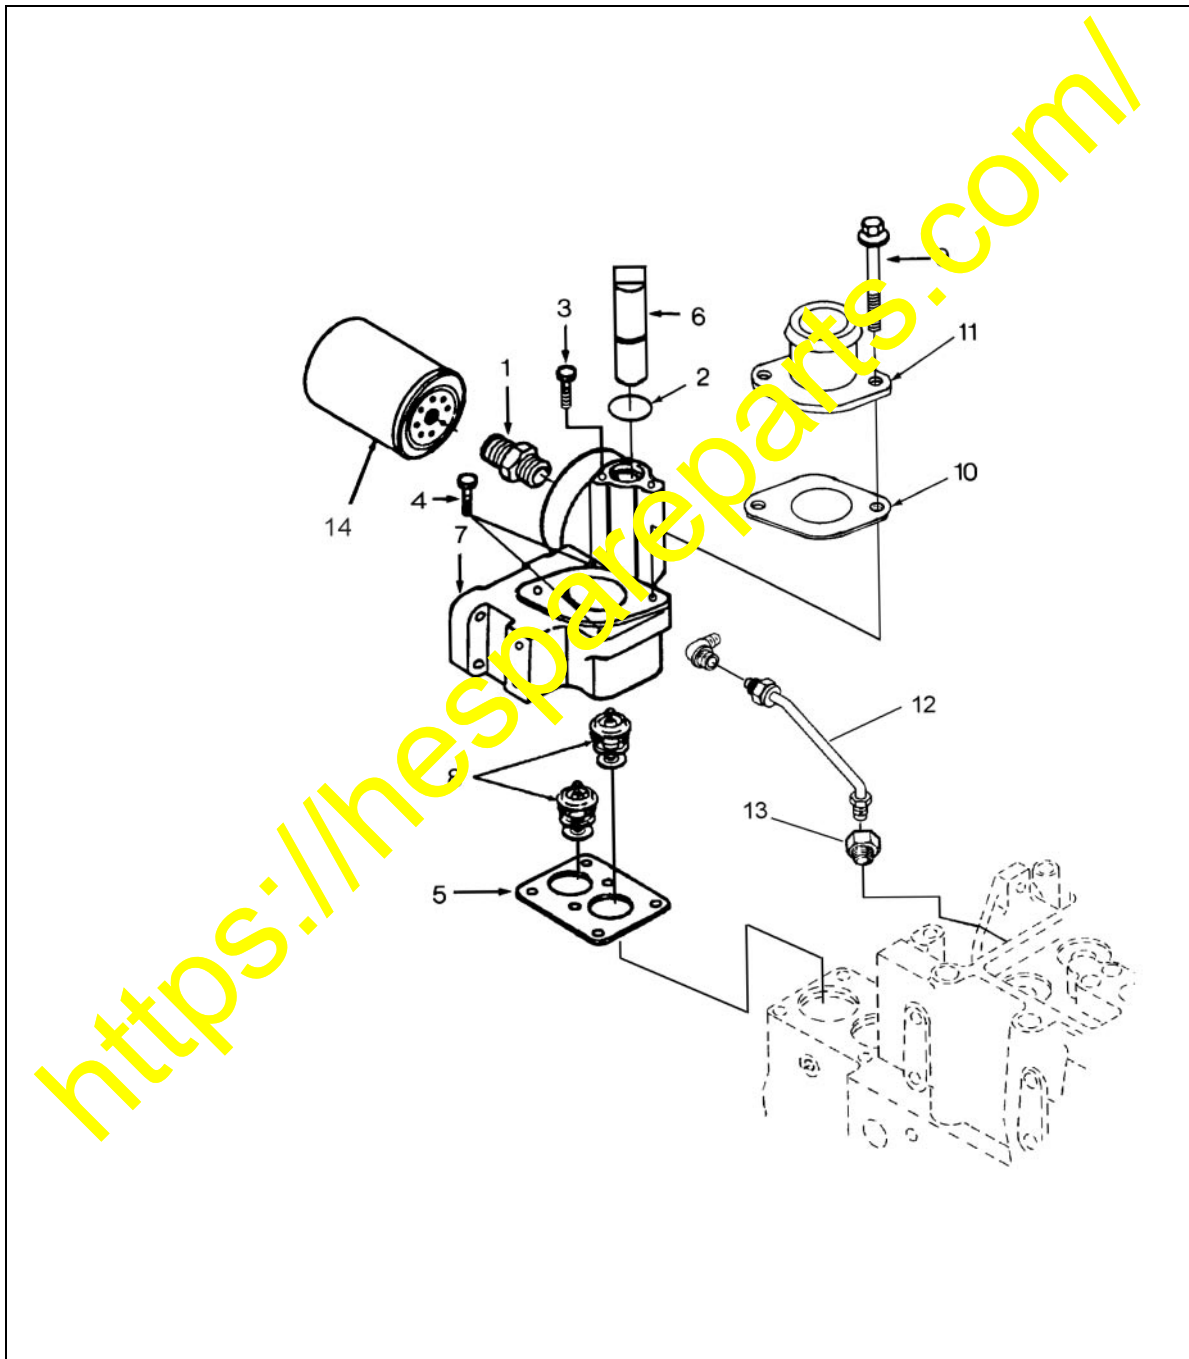

Figure 1 Existing Thermostat Housing
3. As shown in Figure 1, remove the existing thermostat housing and components.